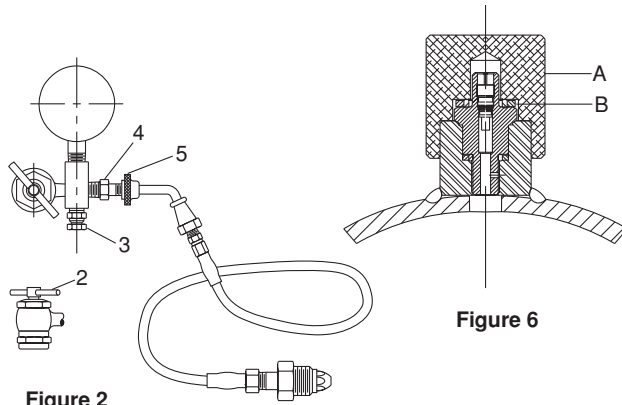

Figure 2
- (AA) Remove gas valve guard (A) and secondary seal (B) from the accumulator. Refer to Figure 2.
- (BB) Torque the gas valve to 9 ft-lbs + 1 (11.5 Nm + 1.3).
- (CC) On the charging device back the gas chuck (2) "T" handle all the way out (counterclockwise) before attaching the chuck to the Diaphragm accumulator.
- (DD) Make sure the bleed valve (3) is closed and tight.
- (EE) Making sure not to loop or twist the hose, attach the Swivel Connector (5) to the charging device gas valve (4) and tighten. (10-15 in lbs (11.5-17 cm kg))
- (FF) Turn the "T" handle (2) clockwise all the way. This action will depress the valve core.
- (GG) Crack open nitrogen bottle valve and slowly fill the accumulator until the button is seated on the fluid port opening, then the nitrogen supply may be fully opened. Shut off the nitrogen supply when gauge movement stops and indicates 110% of desired pre-charge level.
- (HH) Let the pre-charge set for 1 to 2 minutes. This will allow the gas temperature to stabilize. Slowly open bleed valve (3) until the proper pressure is reached.
- (II) When finished precharging, turn "T" handle (2) counterclockwise fully, then open the bleed valve (3) to release residual gas.
- (JJ) Hold the gas valve from turning and remove the charging device.
- (KK) Install secondary seal (B) and valve guard (A).